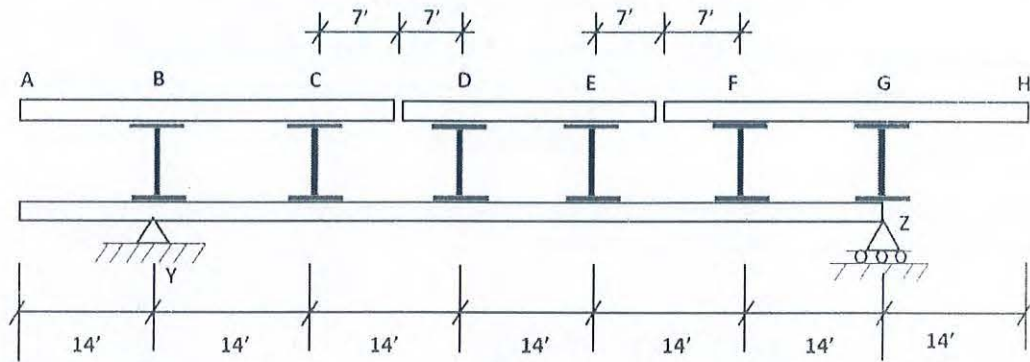

Figure 3
3. Analyze the floor beam with girder structure shown in **Figure 3** and Draw Influence Line Diagram for girder reaction at Z (right support), moment at point D and F of the girder and shear in panel D-E of the girder. [13]